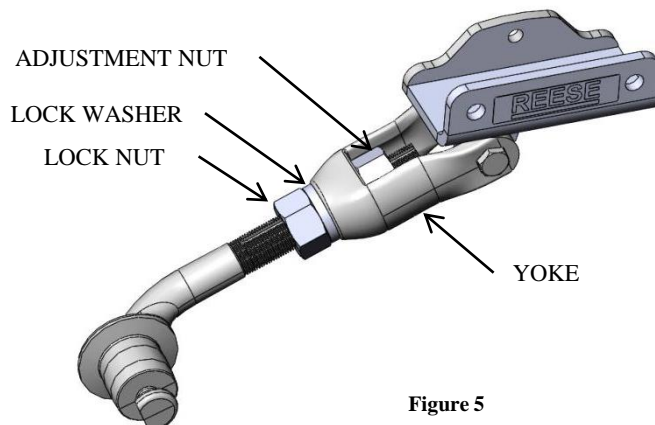
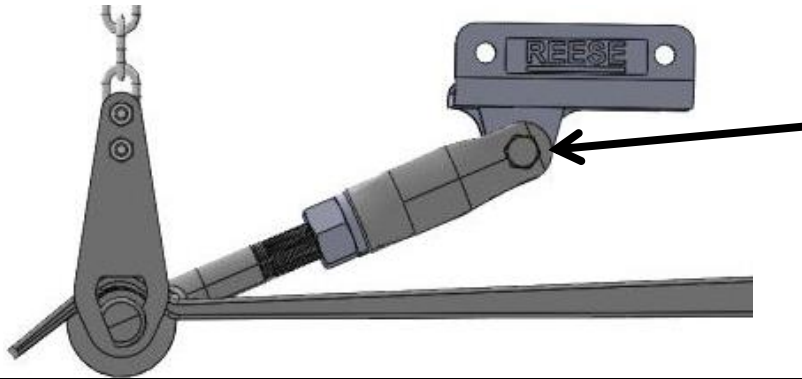

Figure 5
Figure 13
The Measurements in figures 6, 6A, 7 & 7A are guidelines, adjustment of the cam arm length via the adjustment nut (Figure 5) may be required after hookup in later instructions of this manual Cequent Performance Products, Inc. is not responsible for damage incurred due to disregarding any part of this manual.
The Measurements in figures 6, 6A, 7 & 7A are guidelines, adjustment of the cam arm length via the adjustment nut (Figure 5) may be required after hookup in later instructions of this manual. Cequent Performance Products, Inc. is not responsible for damage incurred due to disregarding any part of this manual.
6. Check that the cam is properly seated properly in the detent of the spring bar (figure 13). If the cam arm assembly does not automatically seat in the detent of the spring bar, rap the end of the cam arm with a mallet or hammer until it seats into the spring bar detent as shown in figure 13.
8. Run the adjustment nut shown in figure 5 down to meet the yoke. Tighten the locking nut shown in figure 5 until the locking washer is fully compressed. This process needs to be done for both cam assemblies, i.e. both sides of the trailer frame.
2. Go to each cam arm and check to see that the cam is perfectly centered in the detent of the spring bar. Make adjustments to the cam arm length as required, it is important to have the cam arm/spring bar detent exactly as shown in figure 13.
3. Before adjustments to the cam arm length can be made, raise the trailer tongue jack and lower the snap-up brackets. Loosen the Locking nut (figure 5) and move the adjustment nut (figure 5) until the cam is centered into the detent of the spring bar (figure 13). After making adjustments, lift both snap-up brackets and install retainer clips; lower the trailer tongue jack. Repeat step 2 of this section